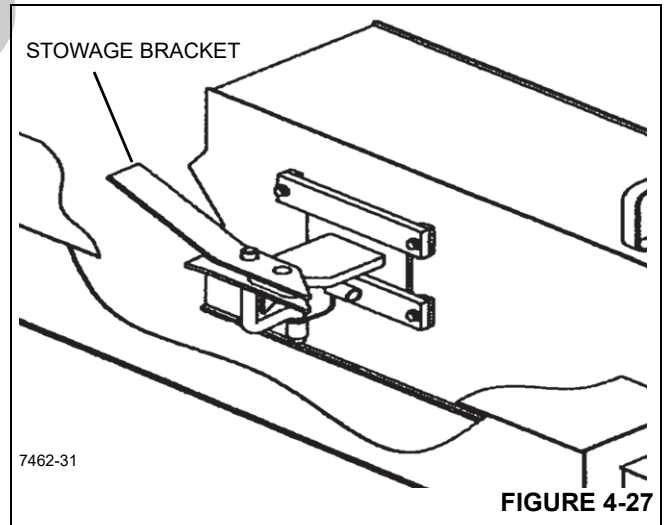

FIGURE 4-27
It is extremely important for the safety of the crane operator and all others working near the crane that the jib boom extension be properly secured to the jib stowage bracket (Figure 4-27) and to the boom nose of the main boom.
5. With jib pinned to the sheave head, swing the jib parallel to the boom and secure to the jib stowage bracket Figure 4-27.